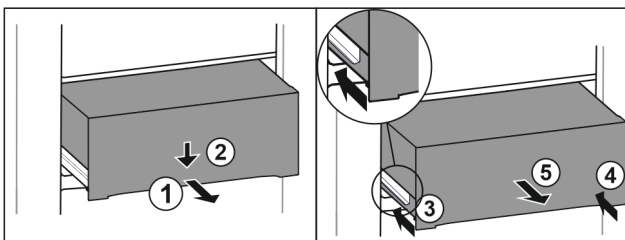

Fig. 134
- ▶ Pull out drawer half-way. Fig. 134 (1)
- ▶ Push the drawer down at the front. Fig. 134 (2)
- ▶ Push the left rail in by about 2 cm. Fig. 134 (3)
- ▶ Push the right rail in by about 2 cm. Fig. 134 (4)
- ▶ Remove drawer to the front. Fig. 134 (5)